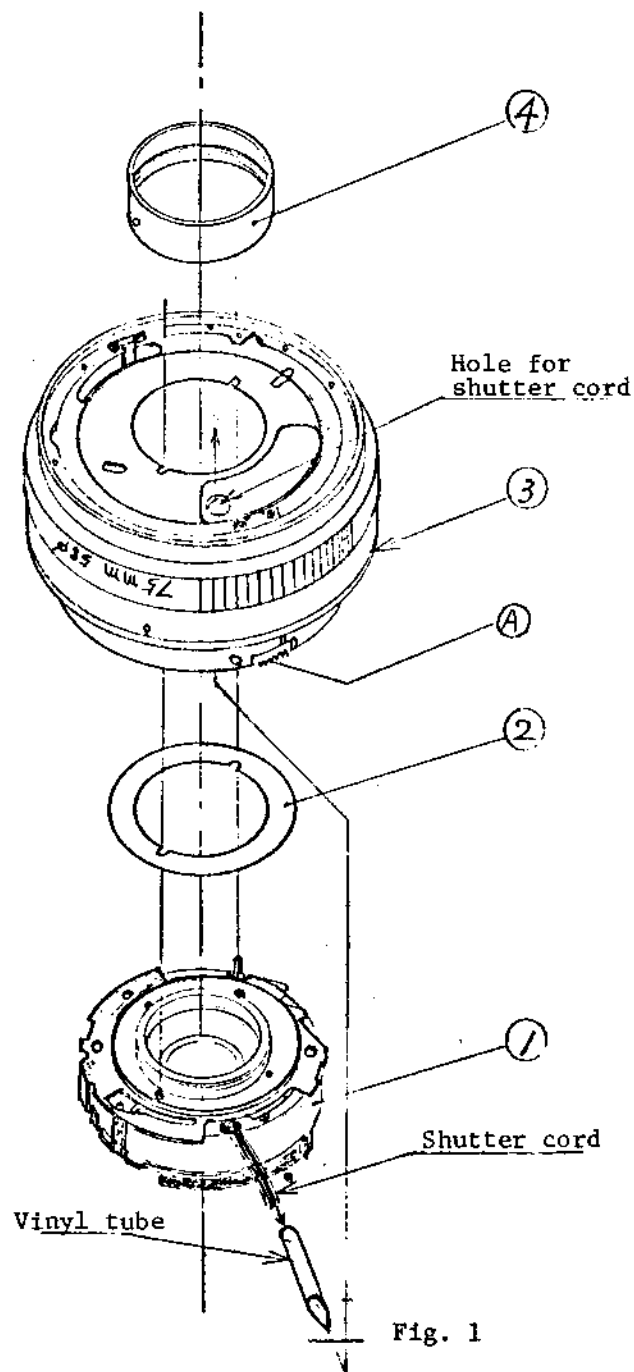

Fig. 1
Place a helicoid unit ③ on it. As shown in Fig. 1, thread cords of shutter ① through a vinyl tube and place it through the hole for shutter cords ③.